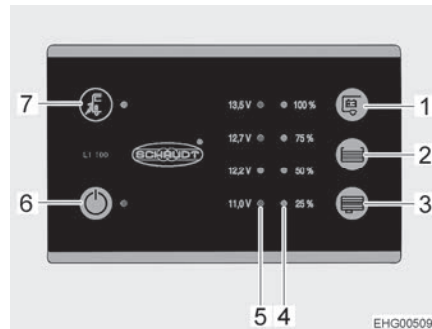

Fig. 65 Panel (LT 100)
The yellow LED at the mains connection symbol "⚡" (Fig. 65,7) is lit when the vehicle is connected to an external mains supply. In this case, the LED will also be lit when the panel is switched off.
The 12 V main switch (Fig. 65,6) switches the panel and the 12 V power supply of the living area on and off.
- Press switch "⏻" (Fig. 65,6): The 12 V living area power supply is switched on. The LED lights up green.
- Press switch "⏻" (Fig. 65,6) again: The 12 V living area power supply is switched off. The LED goes out.
The LED array (Fig. 65,5) displays the battery voltage of the living area battery as follows:
- Press the button " " (Fig. 65,1): The battery voltage of the living area battery is displayed.
The LED array (Fig. 65,4) displays the fill level of the fresh water tank or of the waste water tank.
Press the button "FW" (Fig. 65,2): The fill level of the fresh water tank is displayed by lit LEDs.
Press the button "WW" (Fig. 65,3): The fill level of the waste water tank is displayed by lit LEDs.